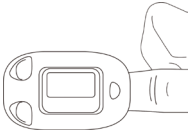

Figure 5 Put finger in position
- ⚠ The finger should be placed correctly (see Attached figure 5), as improper assembly or improper contact position for sensor will influence the measurement.
2) Open the clip as shown in Figure 5.